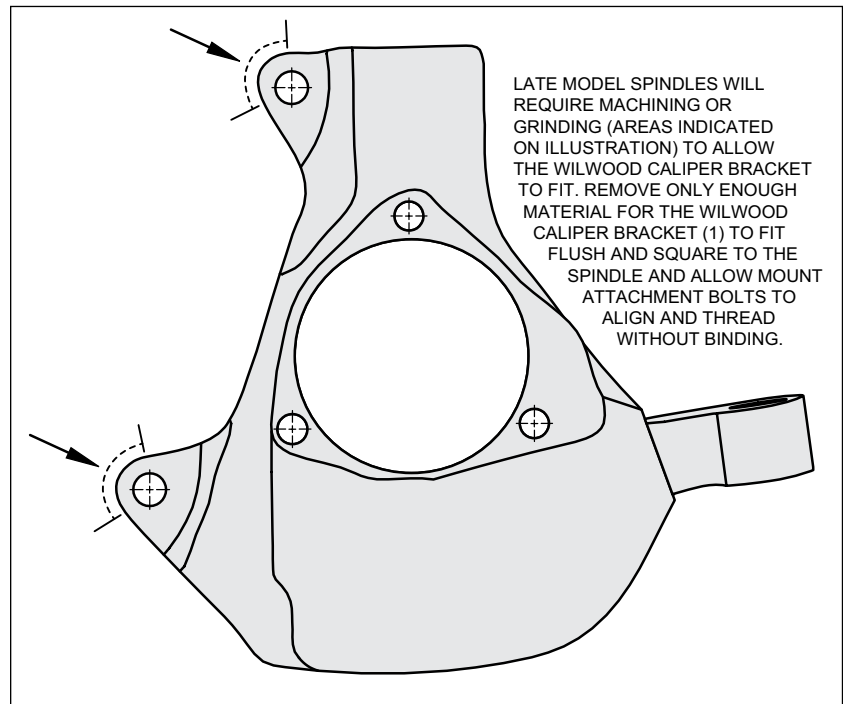

Figure 3. Spindle Machining Diagram
Designed for use with factory aluminum and iron spindles, see page 4, Figure 3 for details
- 2007 - 2018 spindles will require light machining or grinding of the original caliper mount ears in order for the Wilwood caliper bracket to fit. Please see Figure 3, page 4 for instructions. Before assembly, examine the necessity of this modification by inspecting the spindle and bracket interface and your ability to perform this modification before assembling any parts.